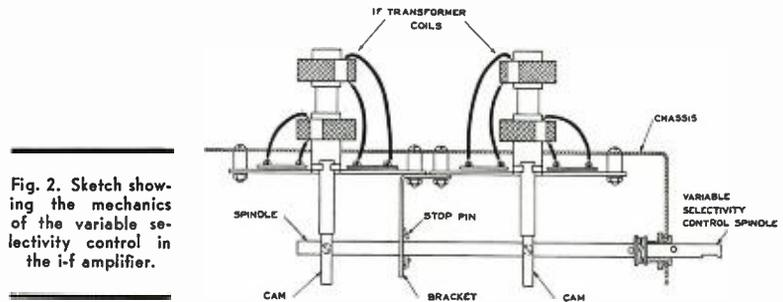

Fig. 2. Sketch showing the mechanics of the variable selectivity control in the i-f amplifier.
Needless to say the case of interest is that for the pad of minimum loss, so that λ is fixed by this condition for any value of K, as shown in formula (4). It immediately follows that curves for K_1 , K_2 , K_3 and K_4 may be plotted as a function of K, or the ratio of generator and terminal impedances. Fig. 2 indicates one set of curves in which M and P are expressed as functions of A. Naturally a similar set of curves may be drawn for K_3 and K_4 .
Fig. 2 is greater than can be tolerated. In such cases it is customary to match impedances in only one direction, usually the higher impedance side, and to design the pad for this condition and the desired loss.
transformers has one stationary and one movable coil. The position of the movable coils is controlled by two cams in tandem bearing on the face of the brackets and actuated from the front of the receiver. With the coils spaced at the greatest distance, the intermediate-frequency transformer is just below the critical coupling, and this results in an extremely sharp selectivity characteristic, as shown in Fig. 1. When the coils are brought close together, the transformer is over-coupled and a broad bandpass characteristic results. Fig. 2 illustrates the mechanical arrangement of this feature.